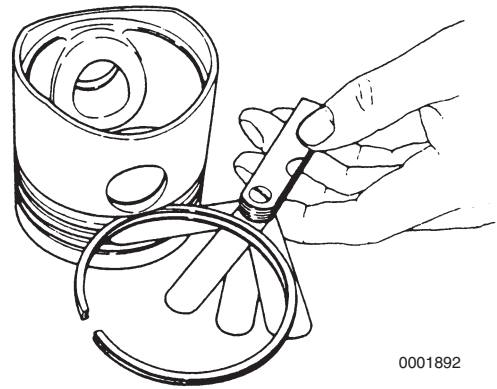

Figure 6-114
9. Place each compression piston ring in the groove as shown (**Figure 6-114**). Use a feeler gauge to measure the clearance between the piston ring and the piston ring land. Record the measurements. See *Piston Ring* on page 6-17 for specifications. Replace the piston if not within specification.